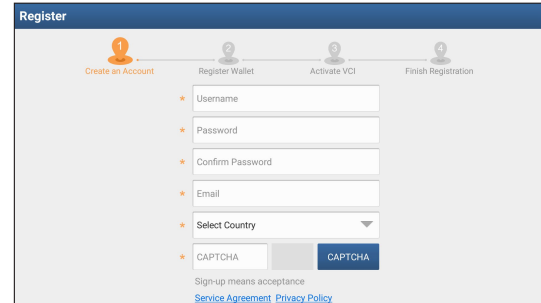

Fig. 4-3
A. **If you are a new user**, tap "New Registration" to enter the sign-up screen. See Fig. 4-3.
1. **Create an App Account:** In Fig. 4-3, input the information to create a new account (all fields must be completed). When finished tap